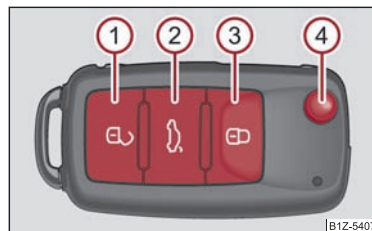

Fig. 30 Remote control key
- Press the button (1) ⇒ fig. 30 for about 1 second.